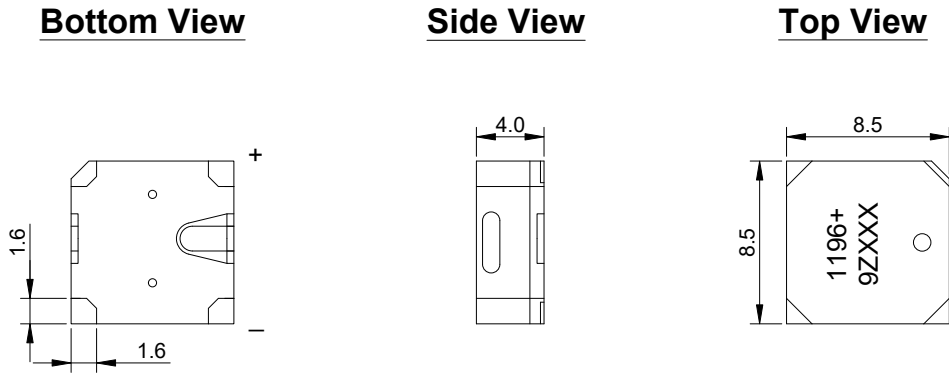

Figure 3. HCS0905Z/1196 Mechanical Layout
- 4.3.1. Layout and Dimension : See Section 7, Figure 3